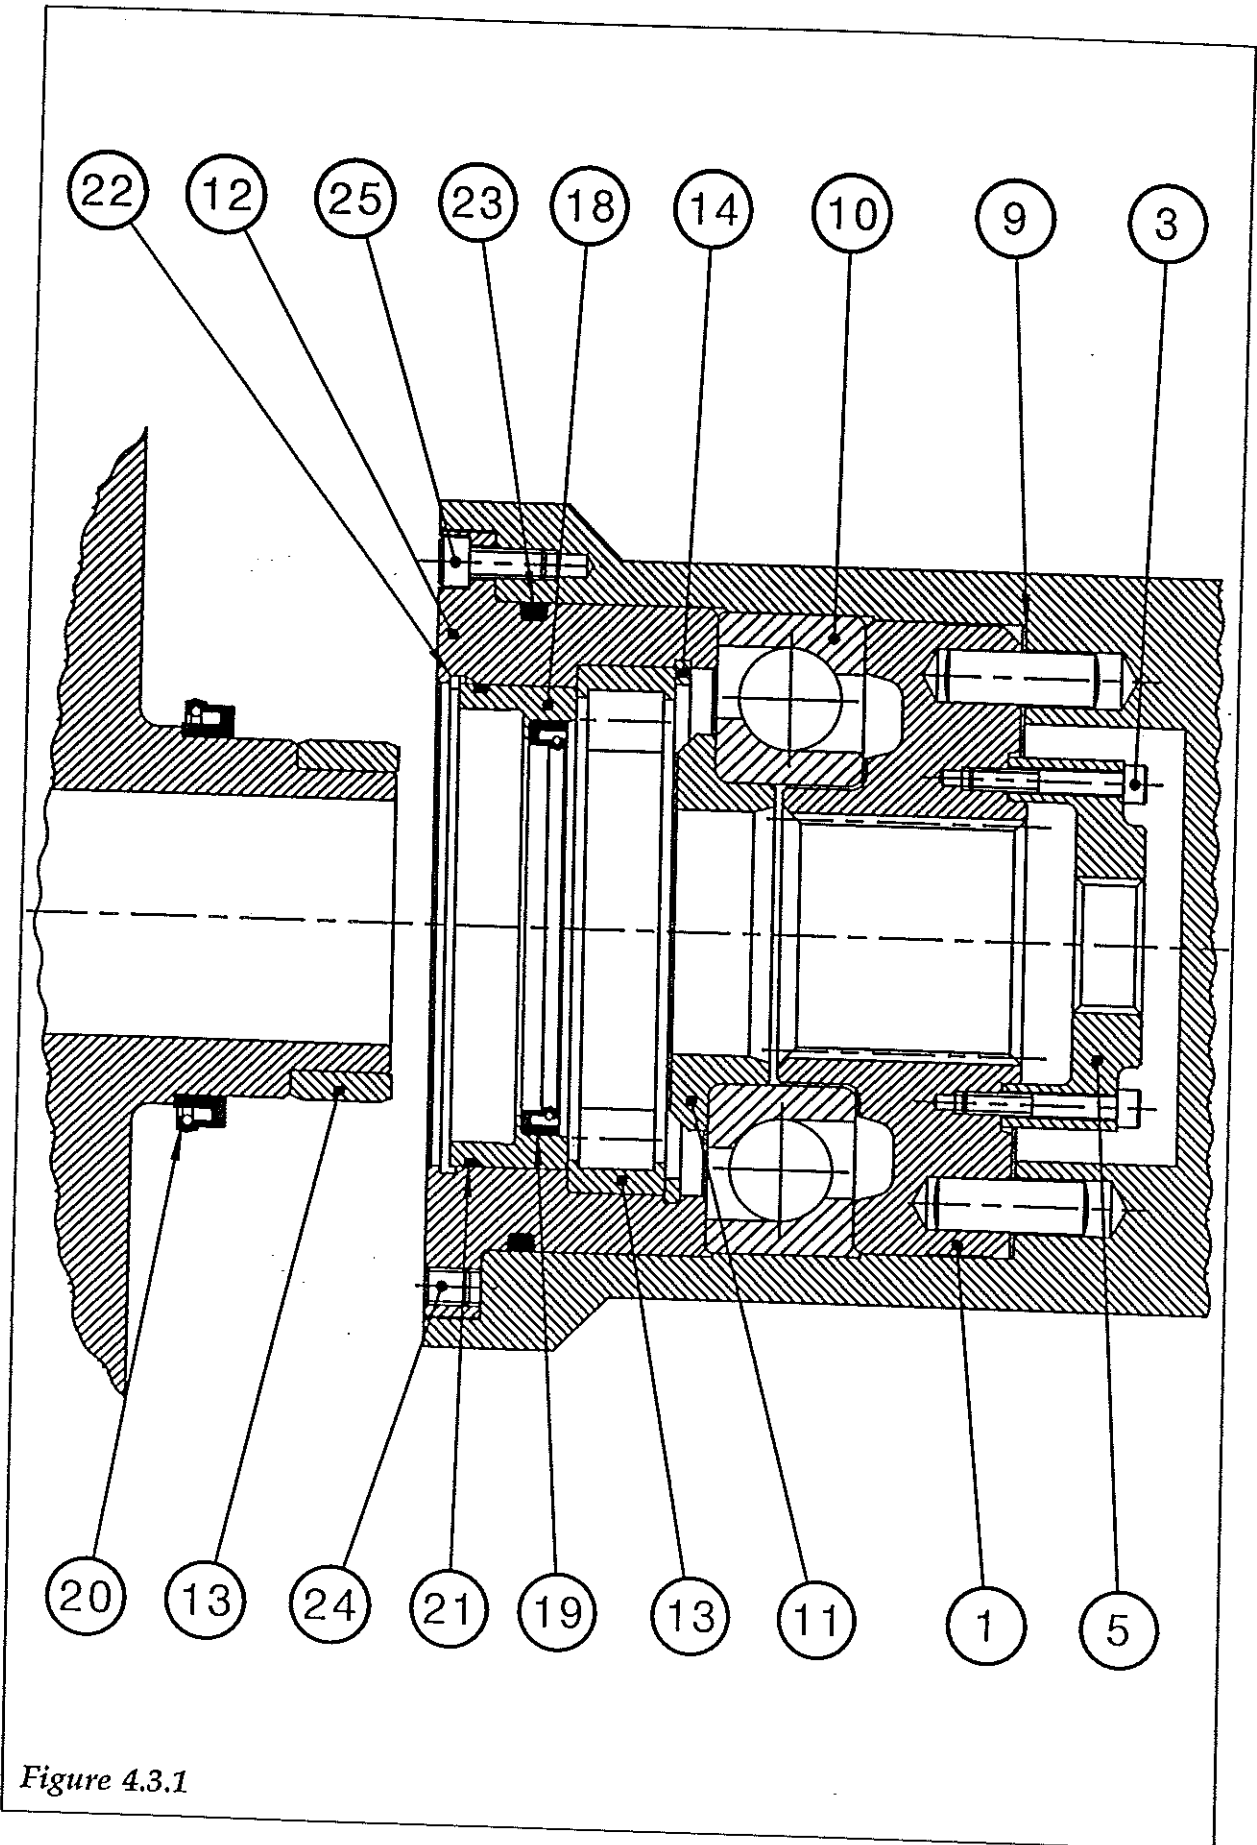

Figure 4.3.1
4.3 Conveyor Bearings (Fig. 4.3.1)
4.3.2 Assemble Conveyor Bearing Large End (Fig. 4.3.1)